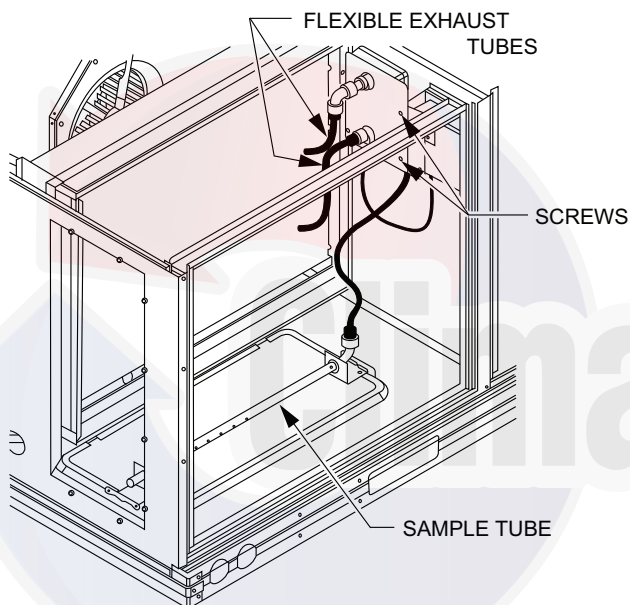

Fig. 44 — Return-Air Detector Shipping Position
1. Unscrew the two screws holding the Return Air Sensor detector plate. See Fig. 44. Save the screws.